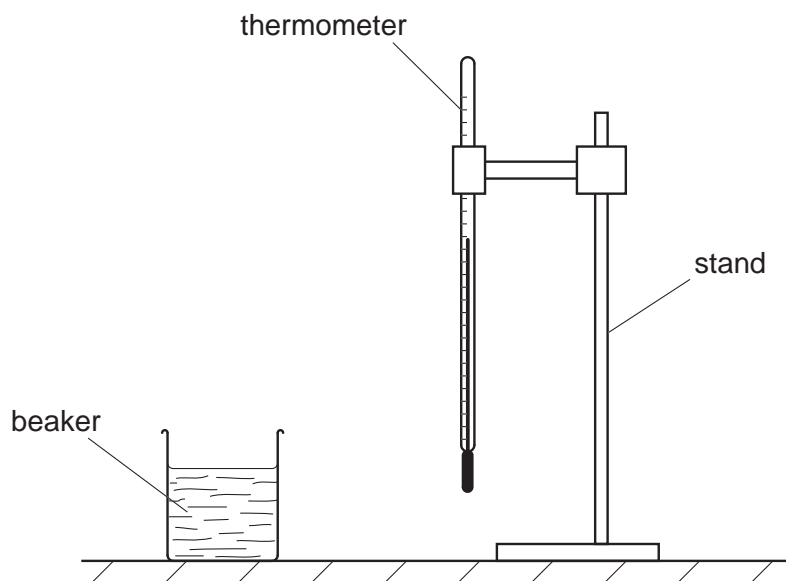

Fig. 2.1
1. The beaker of hot water, thermometer, boss, stand and clamp are to be set up for the candidate as shown in Fig. 2.1.